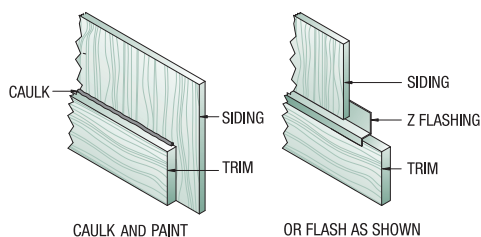

FIG. 5
- Horizontal trim applied as a decorative band at bottom or upper elevations of wall must be flashed or caulked to prevent moisture accumulation behind trim. *See Fig. 5.*
- Caulk all horizontal trim material. Flashing is strongly recommended at windows and openings in walls. See Fig. 5.